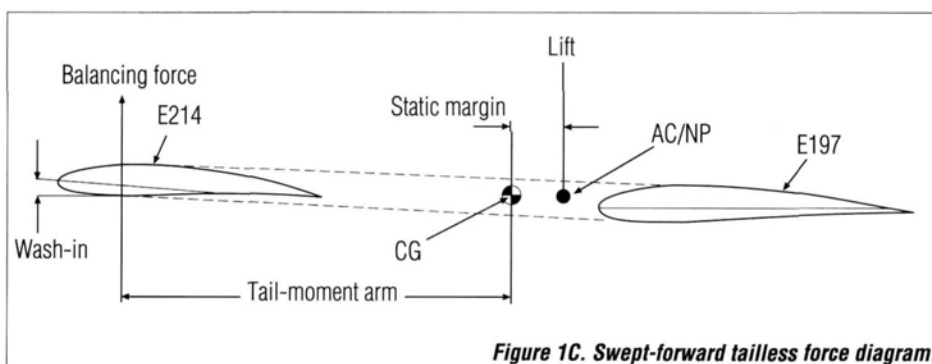

Figure 1C. Swept-forward tailless force diagram.
- For a forward-swept wing, the balancing force acts upward, increasing the wing's lift. This allows less wing area and higher wing loadings (Figure 1C).